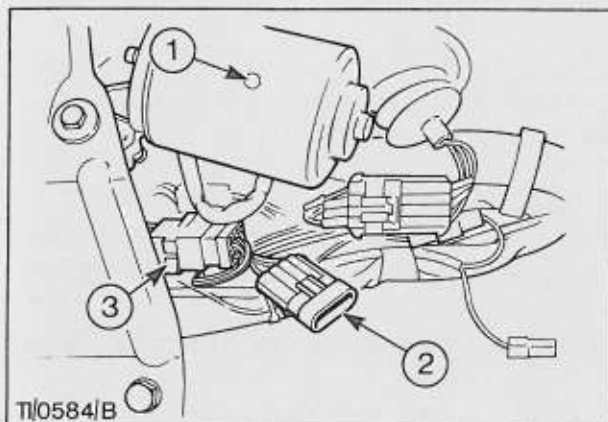

Fig.1. Black Connector with Orange Wires
3. Locate the black connector with orange wires, located close to the windscreen wiper motor (see Fig.1).